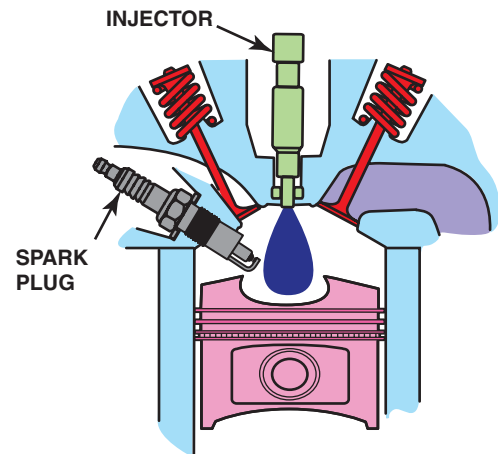

FIGURE 21-6 In this design, the fuel injector is at the top of the cylinder and sprays fuel into the cavity of the piston.
- **Spray-guided combustion.** In this design, the injector is placed in the center of the combustion chamber and injects fuel into the dished-out portion of the piston. The shape of the piston helps guide and direct the mist of fuel in the combustion chamber. ● **SEE FIGURE 21-6.**